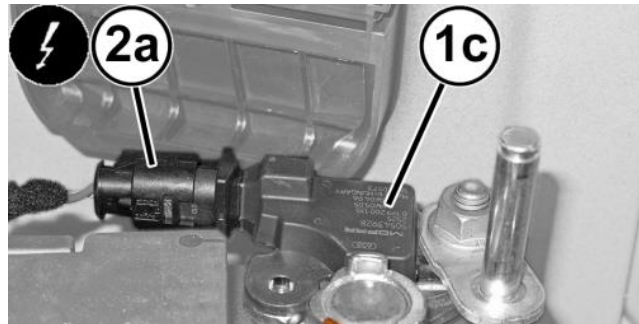

Figure 20 – Intelligent Battery Sensor
50. If equipped with an Intelligent Battery Sensor (IBS), connect the IBS connector (Figure 20).